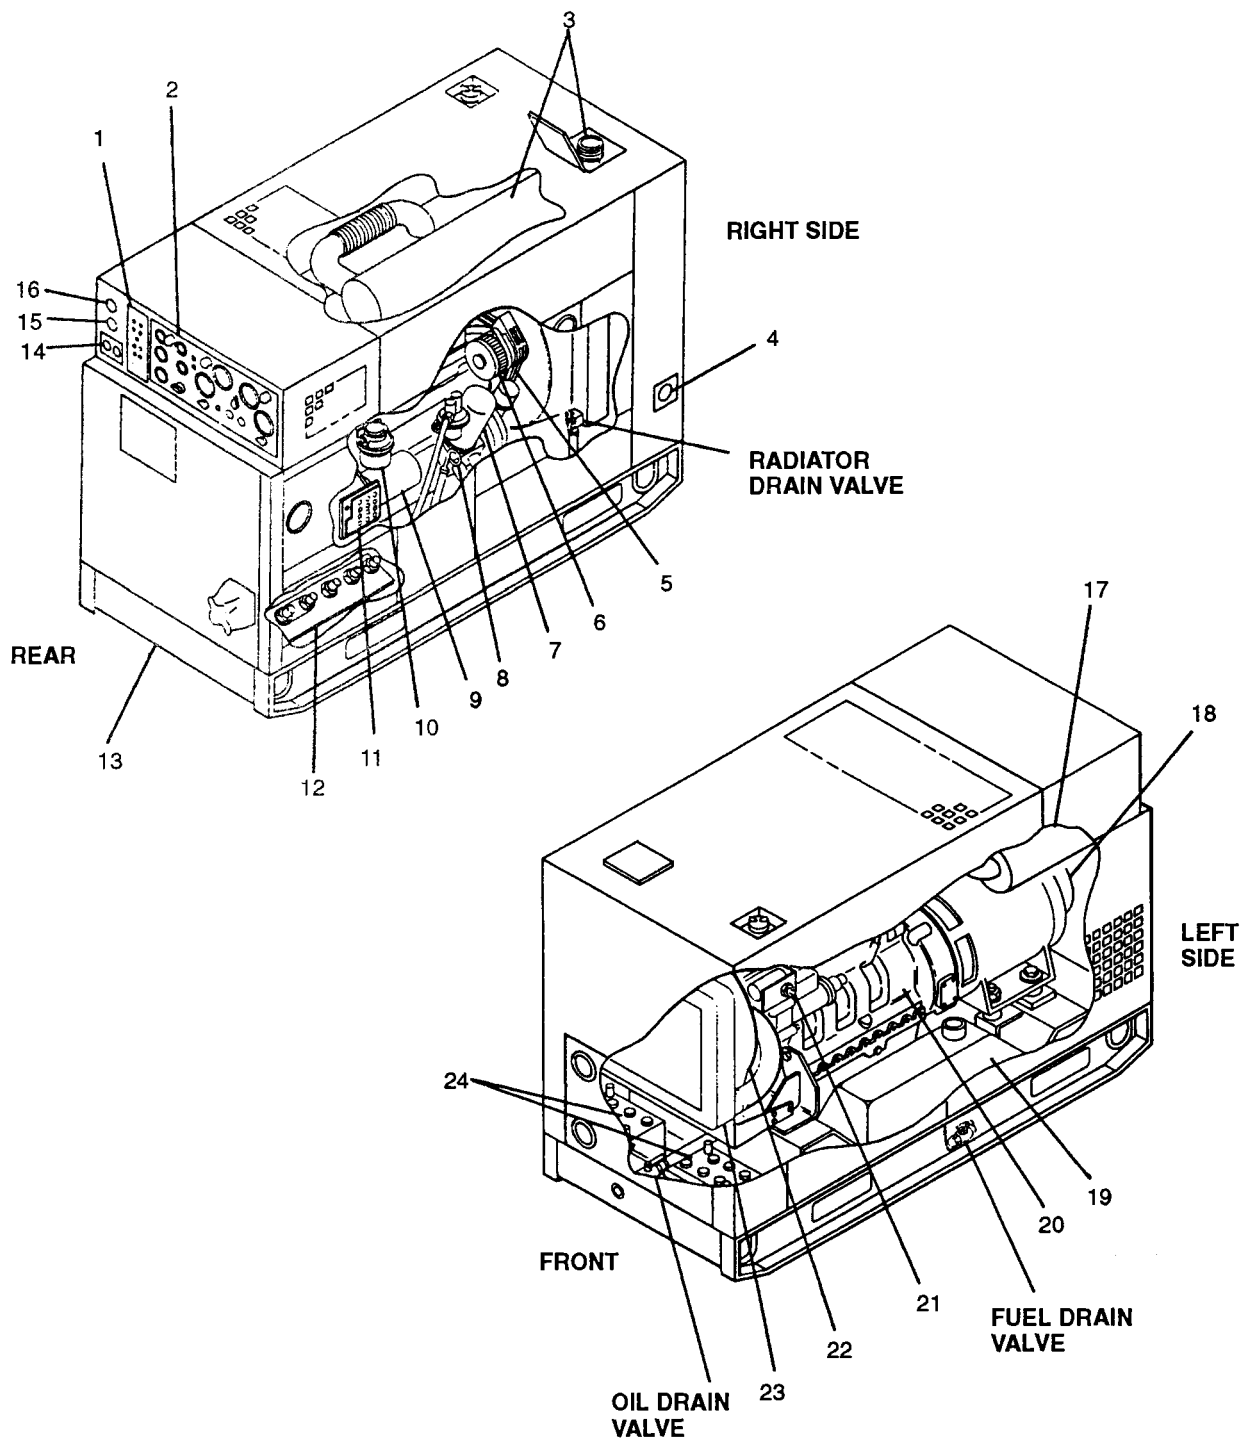

FIGURE 1-12. Generator Set Components
All locations (FIGURE 1-12) referenced herein are given facing the control box side (rear) of the generator set.
- b. Check that radiator drain valve is closed, refer to FIGURE 1-12.
- a. Check that fuel drain valve is closed, refer to FIGURE 1-12.
- b. Open battery access door, and open oil drain valve (FIGURE 1-12) and drain oil.